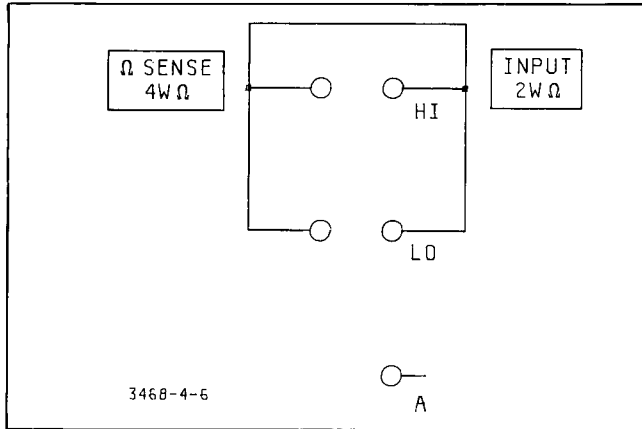

Figure 4-9. 4-Wire Ohms Short
- 6) If the 4-Wire ohms function is to be tested, shorting the INPUT terminals requires that both the sense and input terminals be shorted as shown in Figure 4-9.
both the input terminals and the sense terminals as shown in Figure 4-9). Record the reading. Ensure the reading is within the limits shown on the Test Card and in Table 4-7.